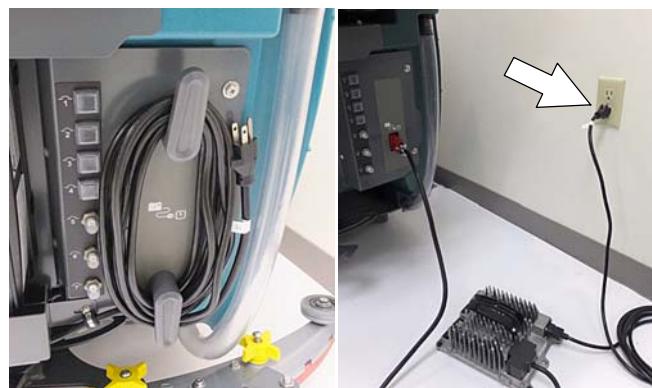

FIG. 75
6. After charging batteries unplug the power supply cord and wrap cord around the cord hooks (Figure 75).
For models equipped with an off-board charger, always disconnect the AC power supply cord first before disconnecting charger from machine (Figure 75).